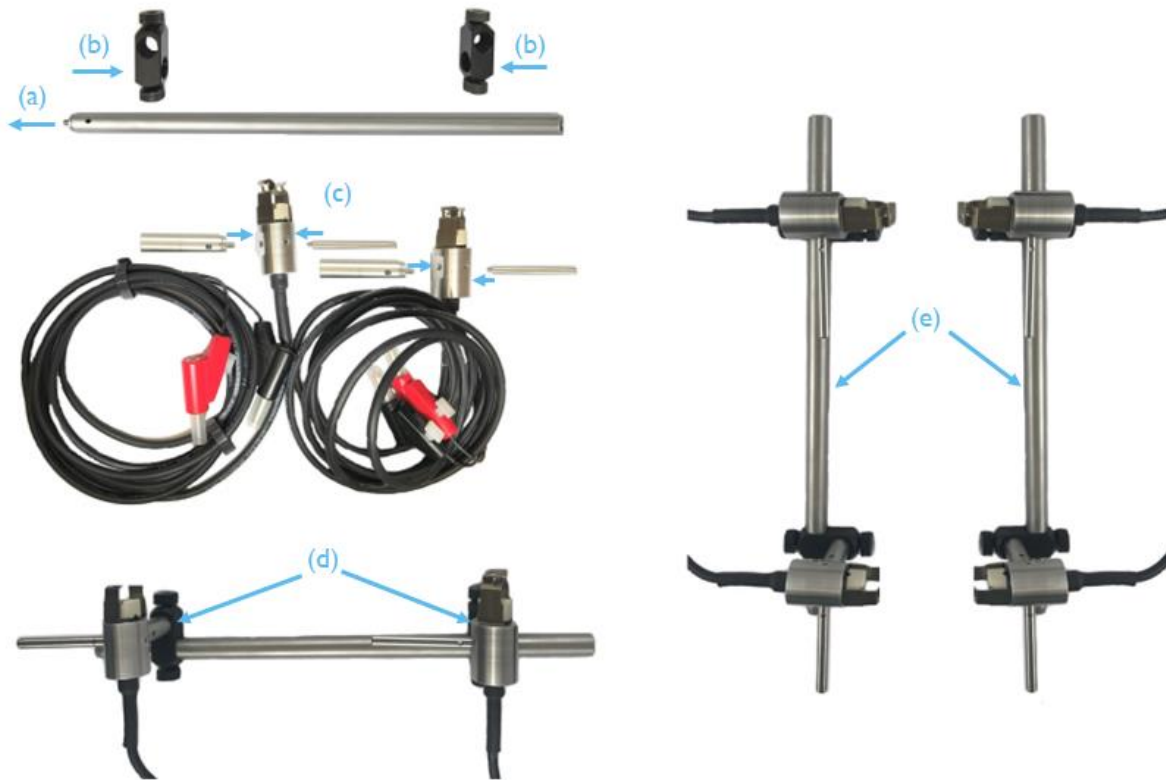

Figure 12. Assembly of lamp holders on the posts (Step 4.1)
Step 4.1 Mount the lamp holders on the post (Figure 12)